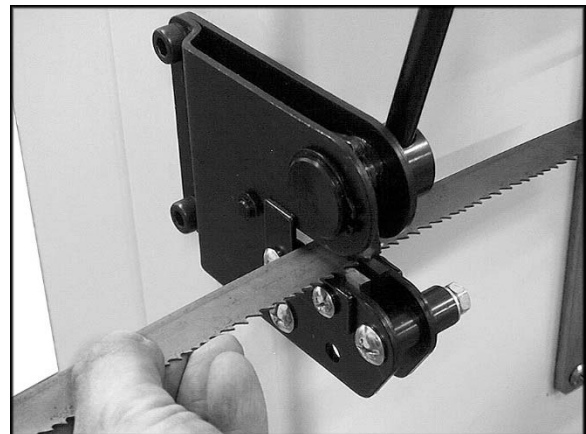

Figure 10
2. Position blade against back of square cutting guide of shear. See Figure 10. Make sure blade is held square with shear knife, so that cut will be square with blade.